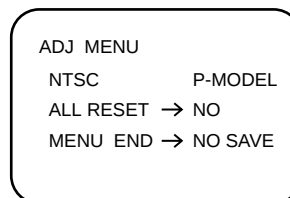

Fig. 3-6
- Press the Menu Button (MENU) once, and the ADJ MENU will appear on the Monitor Screen as shown in Fig. 3-6.